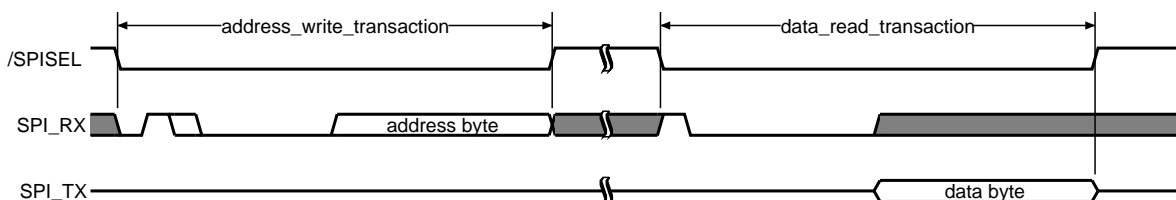

Figure 2.17: Register read access (transaction sequence)
1. A register read access is a sequence of one SPI write address transactions and one SPI read data transaction as shown in Figure 2.17. With the first transaction the SPI master specifies the register address (control byte is '01X0 CCCC'). Afterwards, XHFC-1SU transfers the register value to the SPI master (control byte is '1000 0000').
Figures 2.17 to 2.19 show $\text{/SPISEL} = '1'$ between the transactions. This splits the sequence into an address write transaction and one or several data read transactions. The split time has an arbitrary duration. It can also decrease to zero, which means that /SPISEL remains '0' for several transactions.